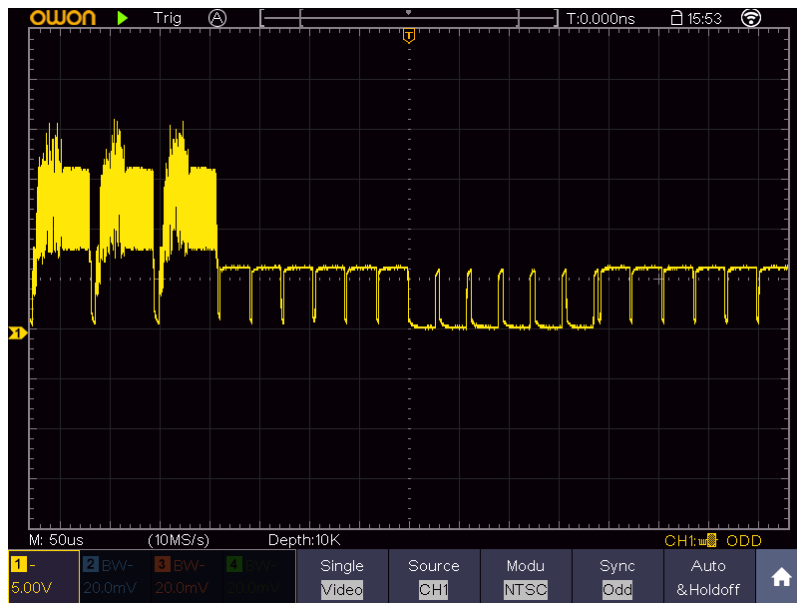

Figure 9-7 Waveform Captured from Video Field Trigger
- (1) Push the **Trigger Menu** button to display the trigger menu.
- (2) Select the first menu item in the bottom menu. Select **Single** in the right menu.
- (3) In the left menu, select **Video** as the mode.
- (4) Select **Source** in the bottom menu. Select **CH1** in the right menu.
- (5) Select **Modu** in the bottom menu. Select **NTSC** in the right menu.
- (6) Select **Sync** in the bottom menu. Select **Field** in the right menu.
- (7) Turn the **Vertical Scale**, **Vertical Position** and **Horizontal Scale** knobs to obtain a proper waveform display (see Figure 9-7).